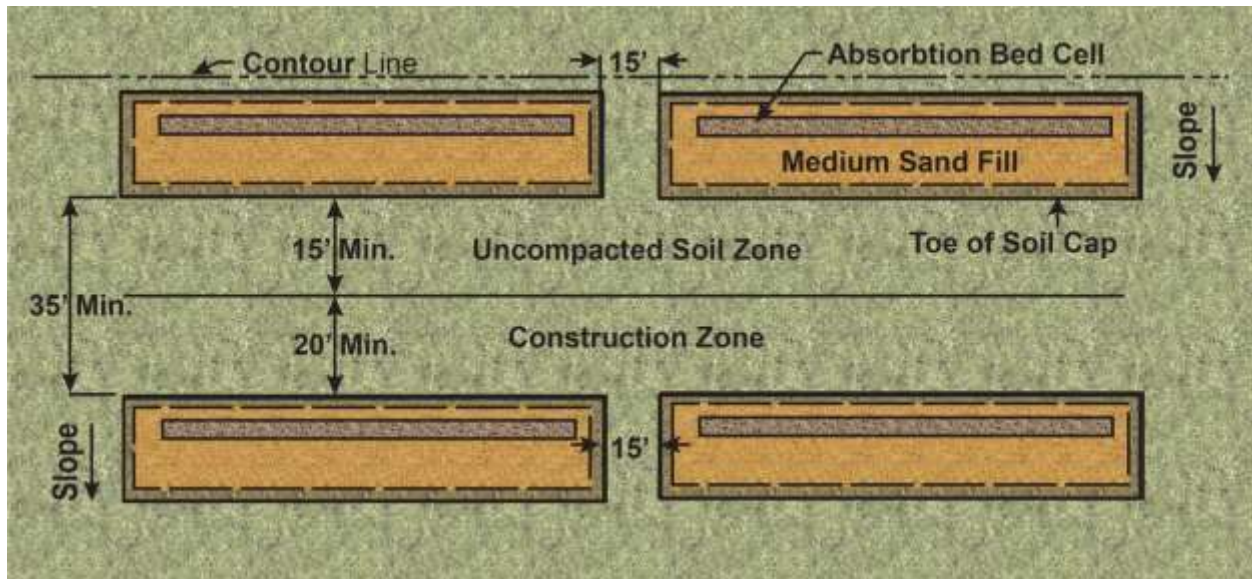

Figure 4-38. Mounds placed upslope and downslope of one another.
9. Mounds placed upslope and downslope from each other should maintain a mound-toe to mound-toe separation distance of 35 feet (Figure 4-38).